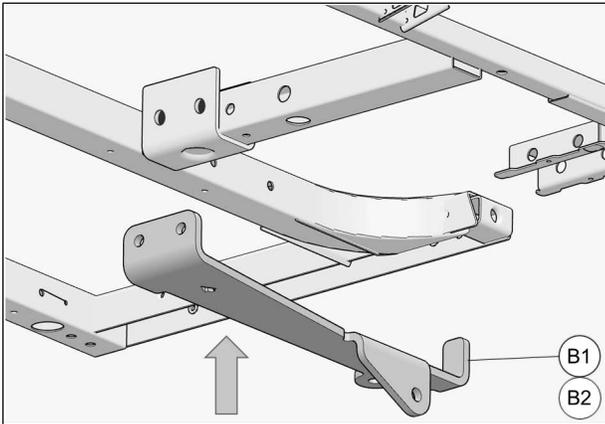

Fig. 5
4. Bring rear anchor bracket (**B1-B2**) up to footrest sub-frame as shown in Fig. 5